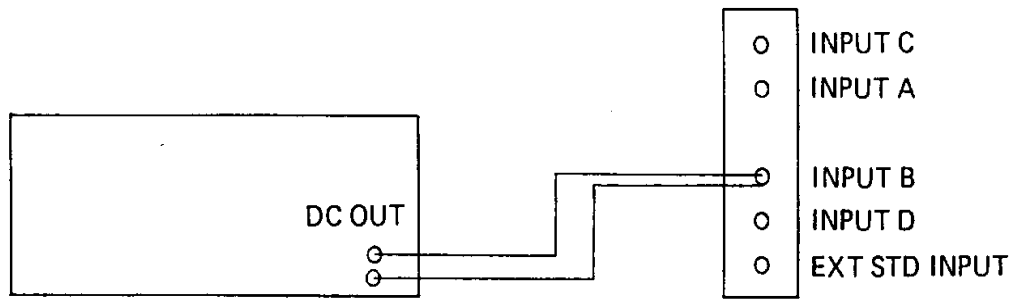

Figure 4-11, Input B Trigger Level Test Configuration
- 4.1.13.6 Connect the DC Standard to input B of the counter as shown in **Figure 4-11**. Single shot autotrigger the counter. Recall the 2251A stored trigger level (Command code RLB) and verify that it is $5.000\text{ V} \pm 80\text{ mV}$.